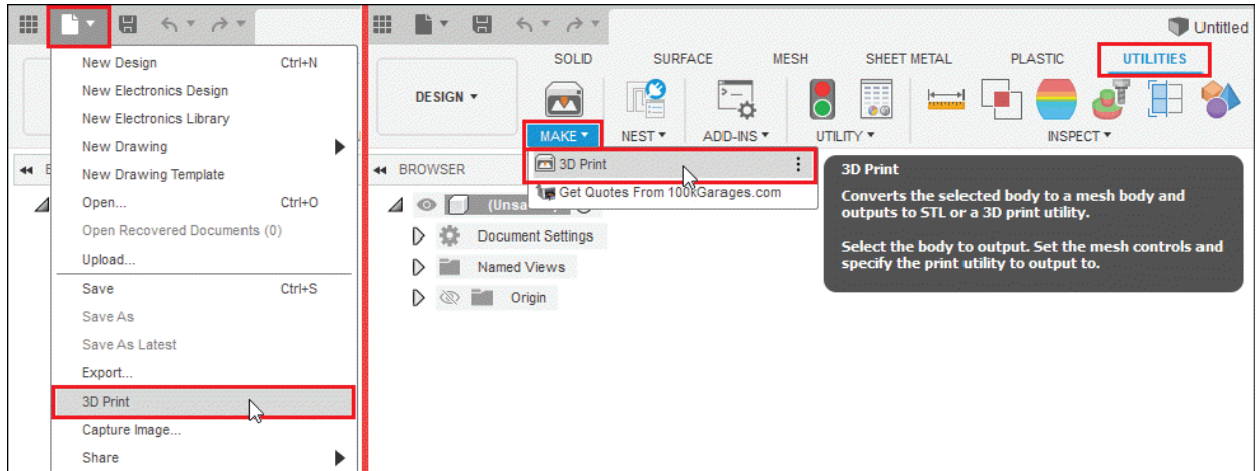
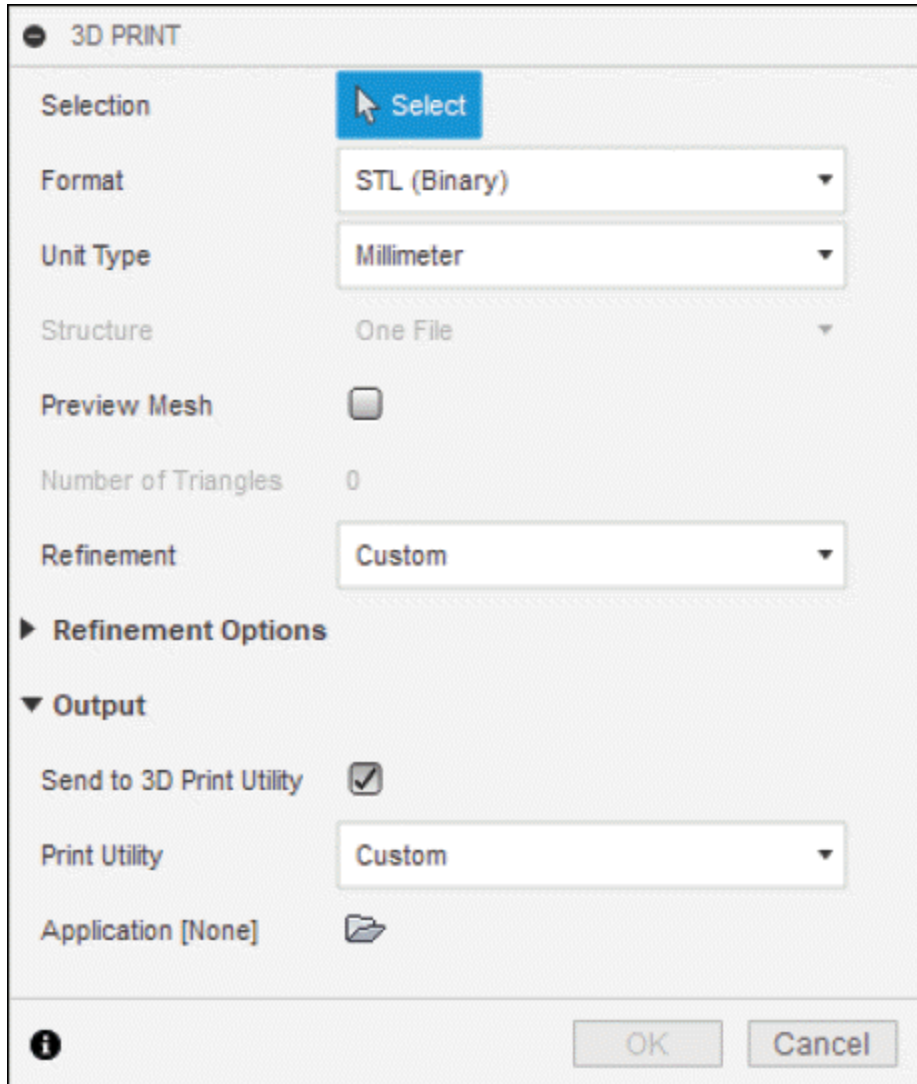

Figure-34. 3D Print tool
Figure-35. 3D Print dialog box
- Click on the **3D Print** tool from the **File** menu or click on the **3D Print** tool from the **Make** panel in the **UTILITIES** tab of the **Toolbar**; refer to Figure-34. The **3D PRINT** dialog box will be displayed; refer to Figure-35.